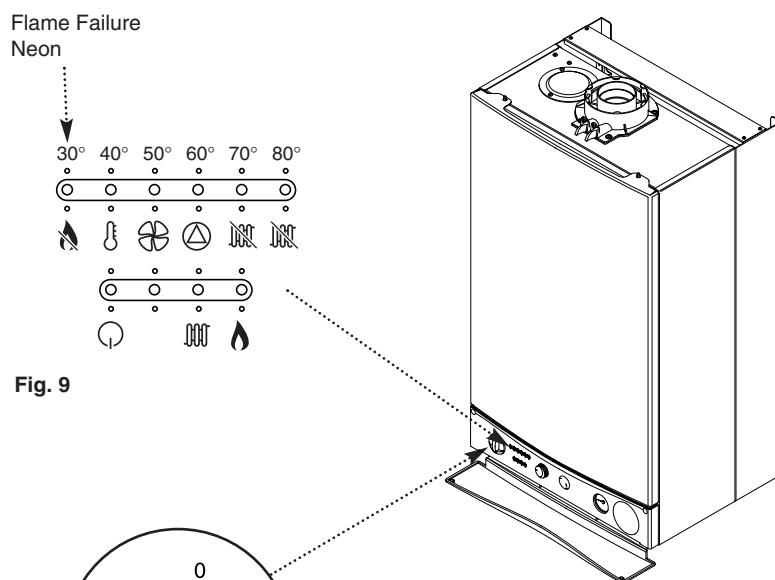

Fig. 9
1. The red flame failure neon () will illuminate in the event of the burner failing to light, when incomplete lighting of the burner occurs or blockage of the condensate drain (Fig. 9).